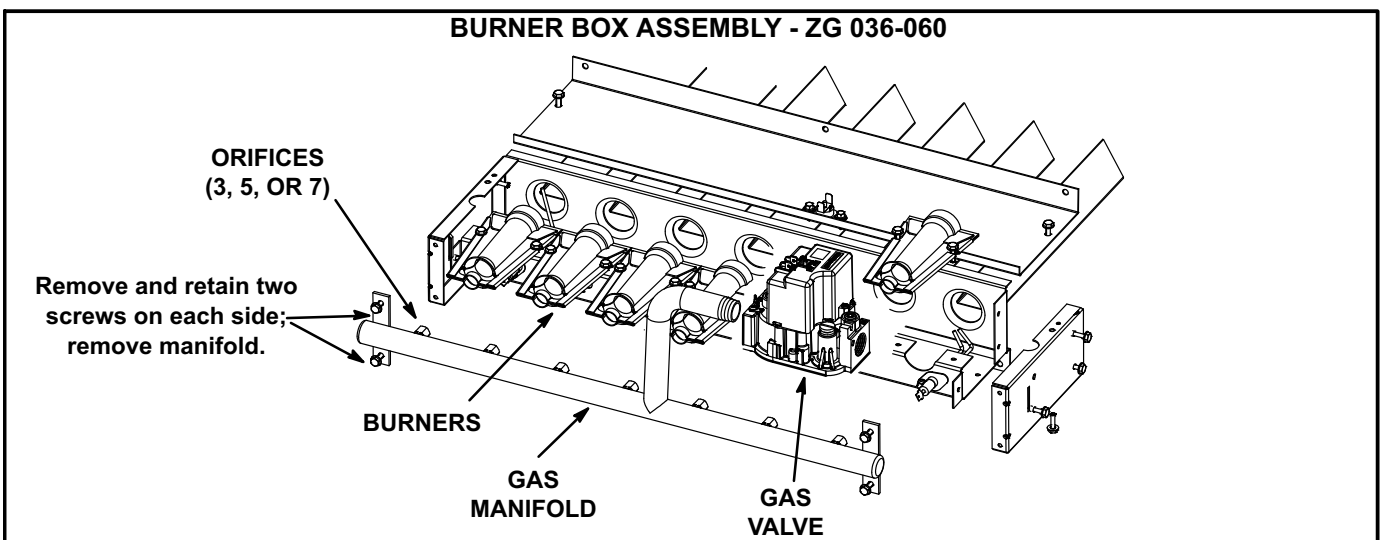

FIGURE 2
- 3- Remove and retain four screws securing manifold to burner box; remove manifold. See figure 2, 3, or 4.